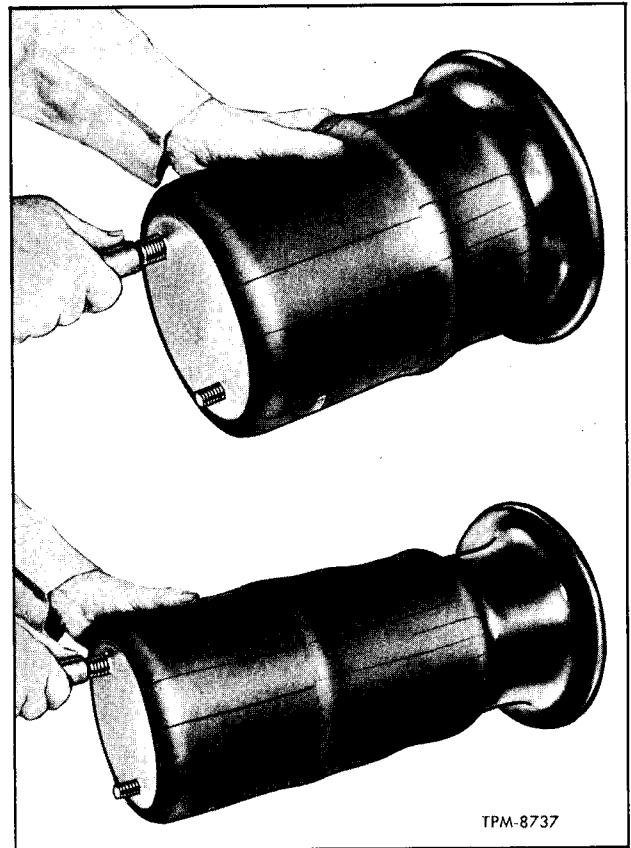

Figure 14—Removing Bellows Loop with Air Pressure
1. With bellows assembly on bench, apply air through hollow fitting in upper retainer (fig. 14) until loop or fold is removed and bellows is straight.